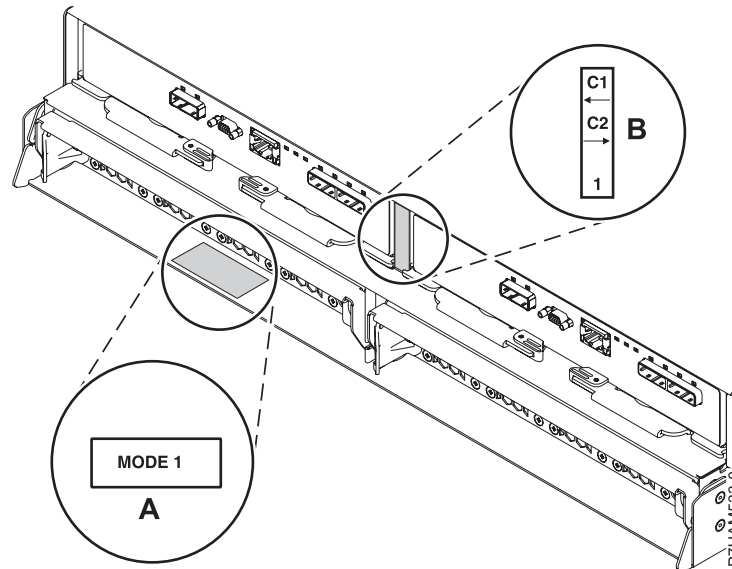

Figure 26. Mode sticker locations at the rear of the 58/87 disk drive enclosure
- b. Confirm the factory-set mode of the 58/87 disk drive enclosure by using information printed on stickers at the rear of the enclosure. Stickers are attached to the lower-left shelf of the chassis (A) and the center support between the enclosure services manager (ESM) modules (B). The stickers indicate whether the enclosure is set to mode 1, mode 2, or mode 4, as shown in Figure 26.